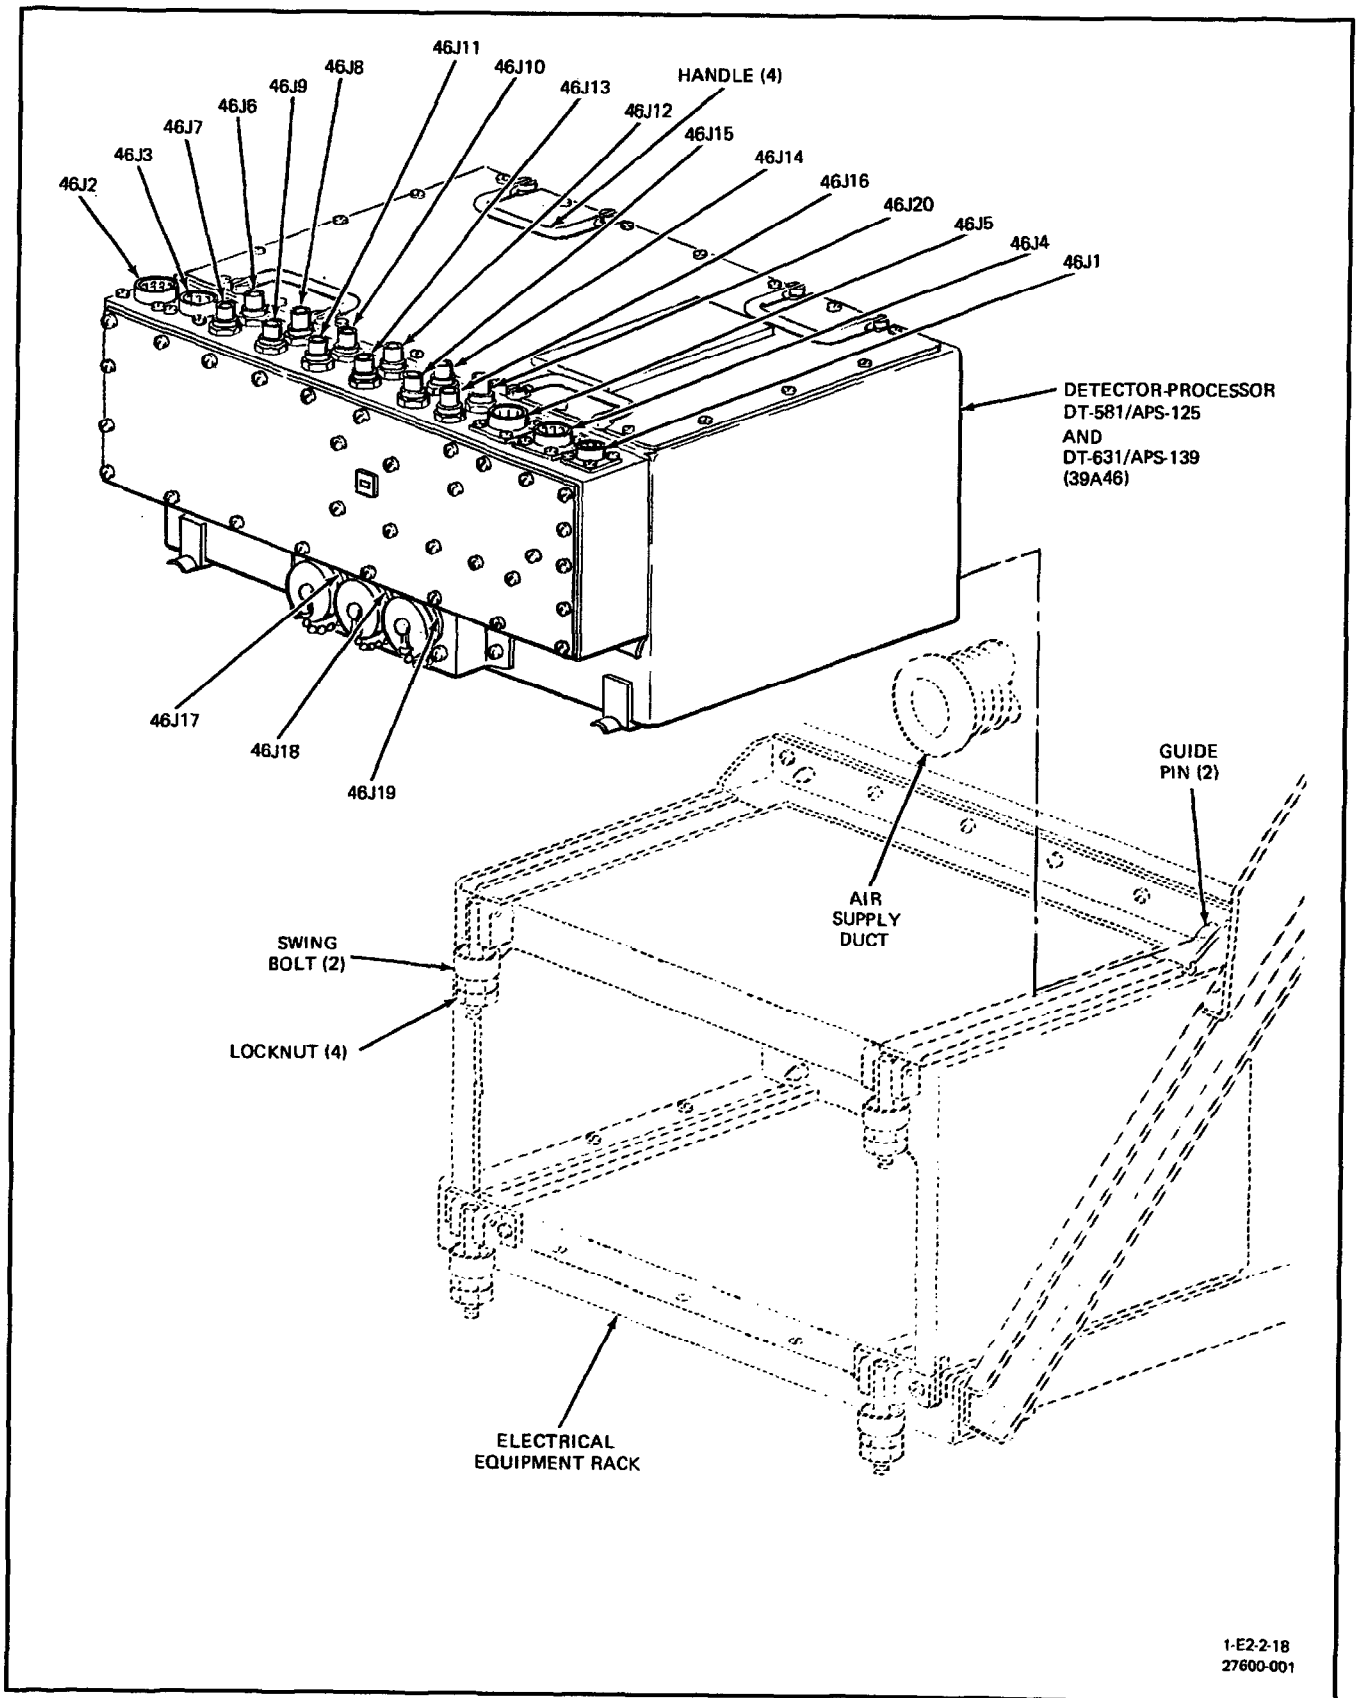

Figure 1. Removal and Installation of Detector-Processor DT-581/APS-125 and DT-631/APS-138
5. **INSTALLATION.** (Figure 1.)